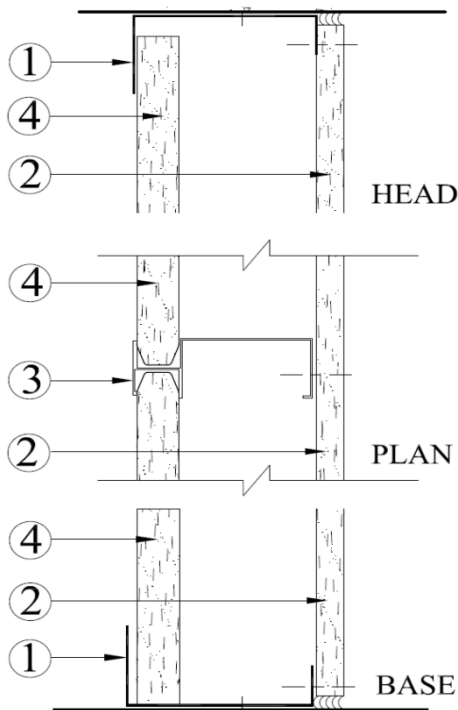

Figure 1 - 1-HR Cavity Shaft Wall (Non-Load Bearing)
SHEETROCK Brand FIRECODE C Core Gypsum Panels have been tested generate the shaft/stairwall limiting heights for wall assemblies shown in Figures 1, 2, 3, 4, and 5. Panels are available in 1/2-in and 5/8-in thicknesses, 48-in wide and lengths up to 14-ft. Product must be UL Classified for fire-rated construction (Type C) and meet the requirements of ASTM C1396.
One-Hour Cavity Shaft Wall (Non-Load Bearing), See Figure 1
1. See Figure 1 for vertical stud installation details within shaft/stair wall.